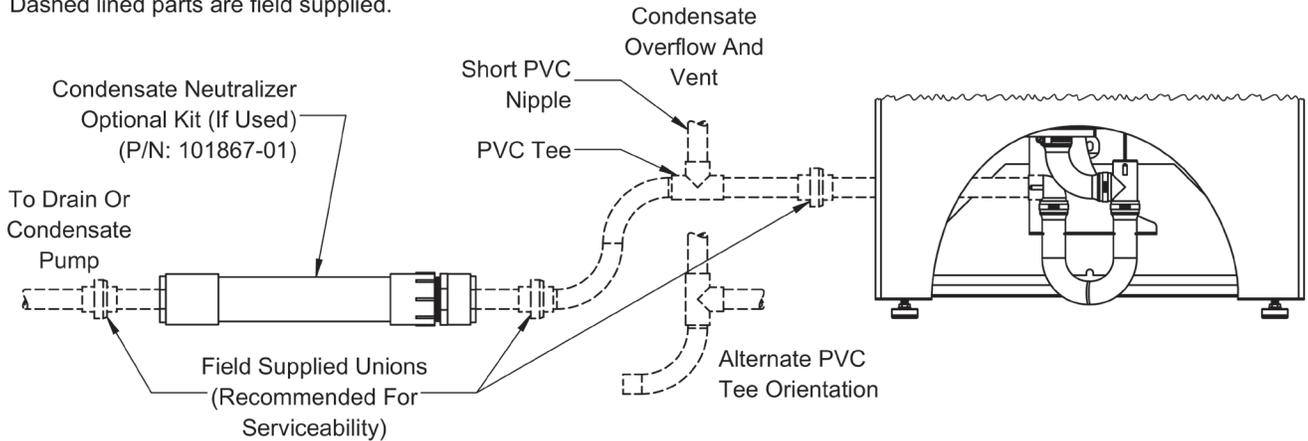

Figure 7.48 Condensate Trap Installation
All condensate which forms in the boiler or vent system passes through the heat exchanger and out of a bottom drain port which is connected to the field-installed condensate trap. This trap allows condensate to drain from the heat exchanger while retaining flue gases in the boiler. This trap is an integral part of the boiler but must be connected to a drain pipe as shown in Figure 7.48. A schedule 40 3/4" PVC elbow is supplied for field connection. Note the following when disposing of the condensate.
5. Construct condensate drain line extension using Schedule 40 3/4" PVC or CPVC. For condensate overflow and vent, install tee with one side open to atmosphere downstream of condensate trap see Figure 7.48. Slope drain line minimum 1/4 in/ft (21mm/m) downward toward drain.
11. Do not attempt to move the trap from the location shown in Figure 7.48. Do not attempt to substitute another trap for the one provided with the boiler.